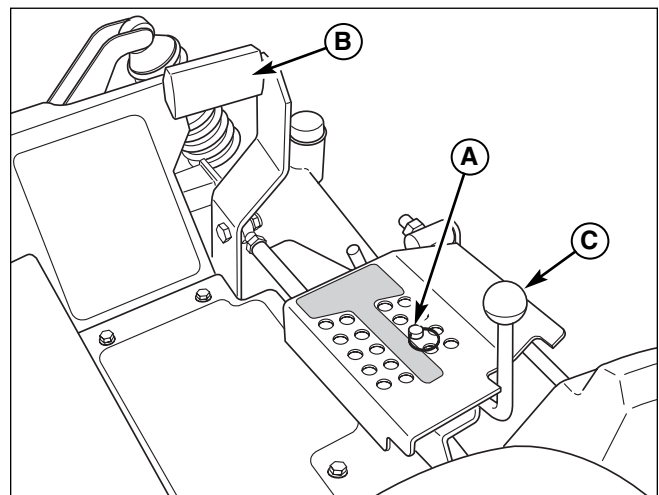

**Figure 36. Parking Brake Adjustment**
3. With the parking brake engaged, measure the compressed spring length (see Figure 36). The spring should be 2-1/8" - 2-1/4" (5,4 - 5,7 cm) long when compressed.
4. If the spring does not measure 2-1/8" - 2-1/4" (5,4 - 5,7 cm), release the parking brake and turn the adjustment nut (B) to adjust the spring length